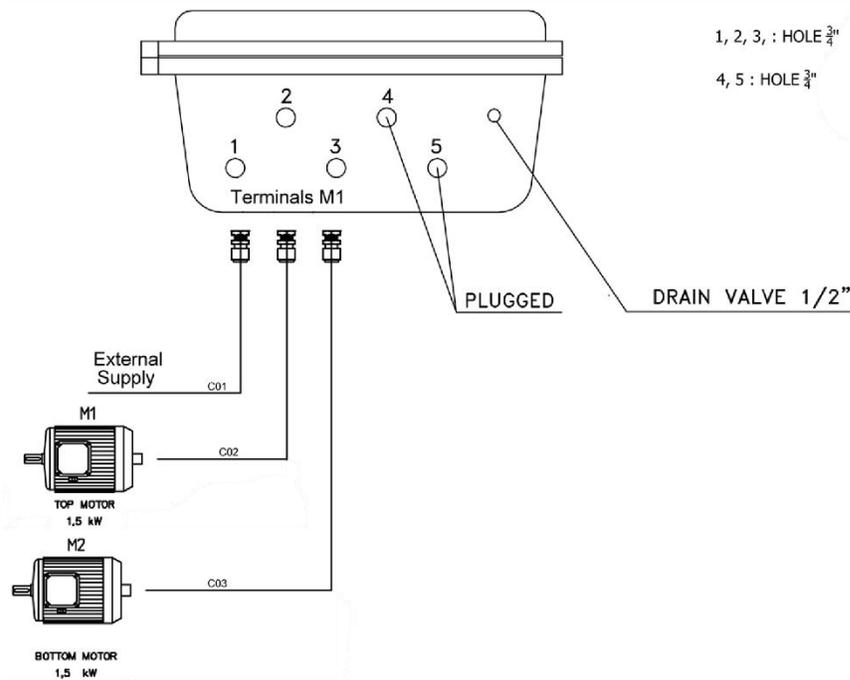

Figure 17. ATEX/IECEX Control Panel View
4. Confirm power supply and motor connections are properly secured. External power supply and motor wire inlet ports are labeled in Figure 17.